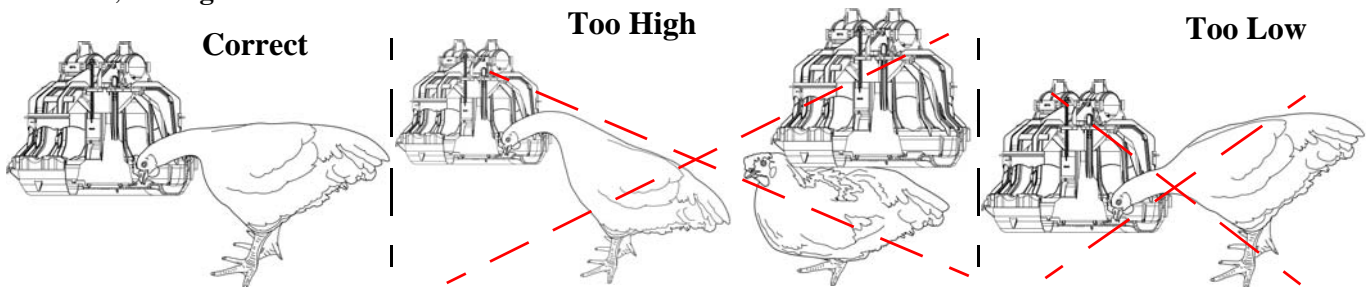

Figure 7. Feeder Height Adjustment
5. Adjust feeder line height to the correct height for the incoming flock, see **Figure 7**.
1. Maintain correct feeder height (check weekly), see **Figure 7**.